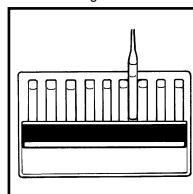

Figure 4
b. **High Range Comparator (fig. 4):** Place the ampoule between the color standards until the best color match is found.